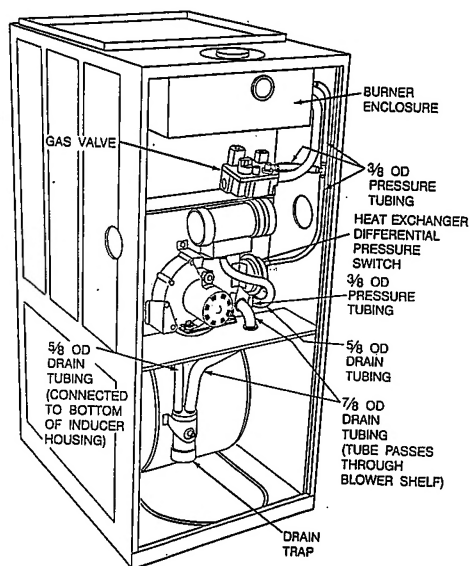

Fig. 13—Upflow Furnace Pressure and Drain Tubing Diagram
- f. Reconnect pressure tubes to pressure switch. (See Fig. 13 or 14.)
4. Connect small drain tube from top of trap to fitting on bottom of inducer housing. (See Fig. 13 or 14.)
5. Connect 7/8-in. drain tube to trap and collector box, and tighten hose clamps. (See Fig. 13 or 14.)
1. Disconnect 5/8-in. drain tube from bottom of inducer housing. (See Fig. 13 or 14.)
2. Disconnect 7/8-in. drain tube from collector box. (See Fig. 13 or 14.)
7. Reassemble condensate drainage system by reversing items 1. through 5.